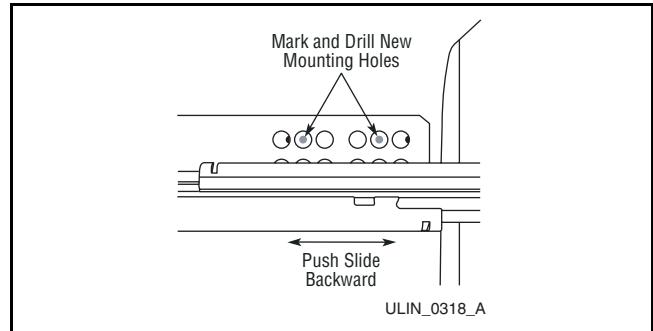

Figure 48
3. Mark new drilling holes using different sets of mounting holes on the slide (**Figure 48**).